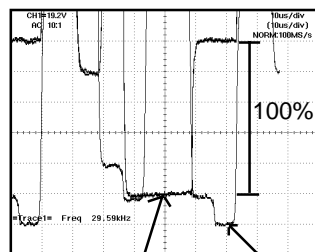

Fig. 2-2
9. Press the VOL. UP/DOWN button on the remote control until the red color level is adjusted to  $120 \pm 10\%$  of the white level. **(Refer to Fig. 2-2)**